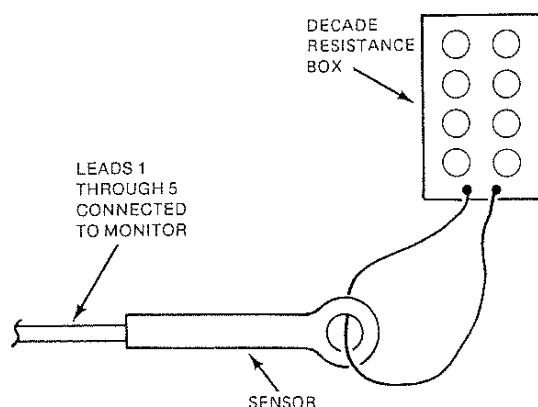

Figure 15.
14. Route resistance loop from decade box through sensor as shown in Figure 15.
The value calculated for R_L in the preceding formula assumes a single loop (or turn) through the sensor as shown in Figure 15. If values calculated are not easily obtainable using decade box, the user may loop decade box wire several times through sensor and then multiply R_L by square of the number of loops used. EXAMPLE: If R_L is calculated as being 0.45 Ω, user may choose to put 10 loops through sensor. The square of 10 is 100. $100 \times 0.45 = 45$. $R_L = 45 \Omega$.